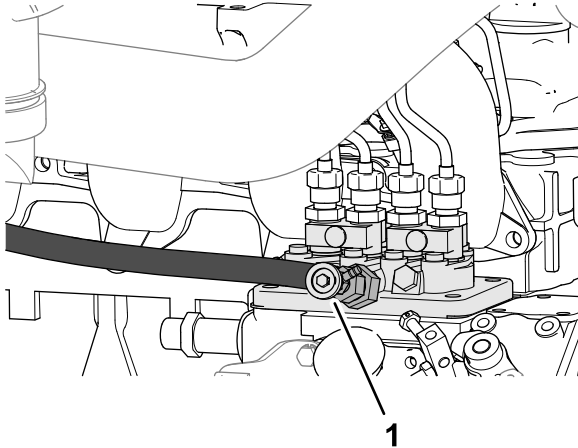

Figure 83
4. Open the air-bleed screw on the fuel-injection pump (Figure 83).